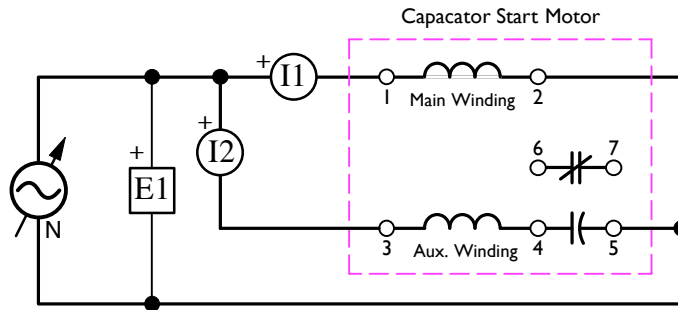

Figure 4.18: Capacitor Start Motor – Main and Auxiliary Windings, and Capacitor
- 41. **Turn off the power** and turn the voltage control knob fully counterclockwise. Modify the capacitor-start motor circuit by connecting the capacitor on the Capacitor-Start Motor module in series with the auxiliary winding as shown in Figure 4.18.